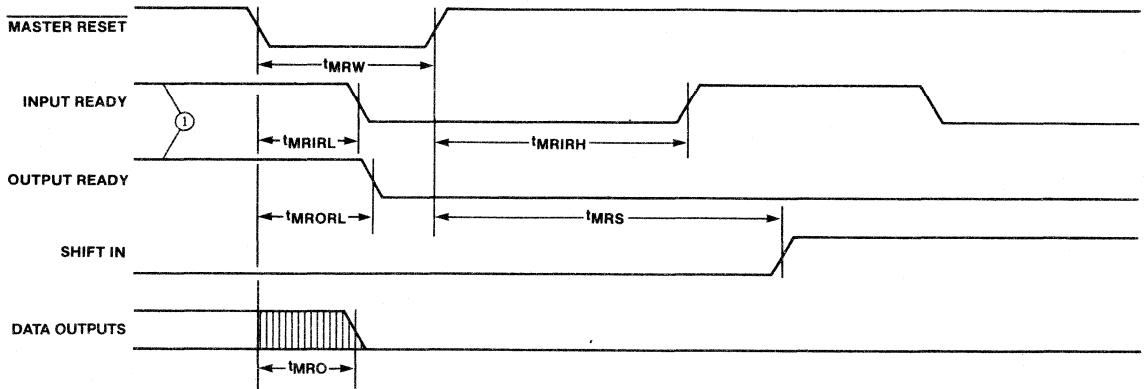

Figure 10. Master Reset Timing
After power up the Master Reset is pulsed low (Figure 10) to prepare the FIFO to accept data in the first location. Master Reset must be applied prior to use to ensure proper operation. When Input Ready (IR) is HIGH the first location is ready to accept data from the Dx inputs. Data then present at the data inputs is entered into the first location when the Shift-In (SI) is brought HIGH. A SI HIGH signal causes the IR to go LOW. Once data is entered into the first cell, the transfer of data in any full cell to the adjacent (downstream) empty cell is automatically activated by an on-chip control. Thus data will stack up at the end of the device (while empty locations will "bubble" to the front when data is shifted out). tPT defines the time required for the first data to travel from input to the output of a previously empty device. When SI is brought LOW and the FIFO is not full, IR will go HIGH, indicating more room is available. If the memory is full, IR will remain LOW.